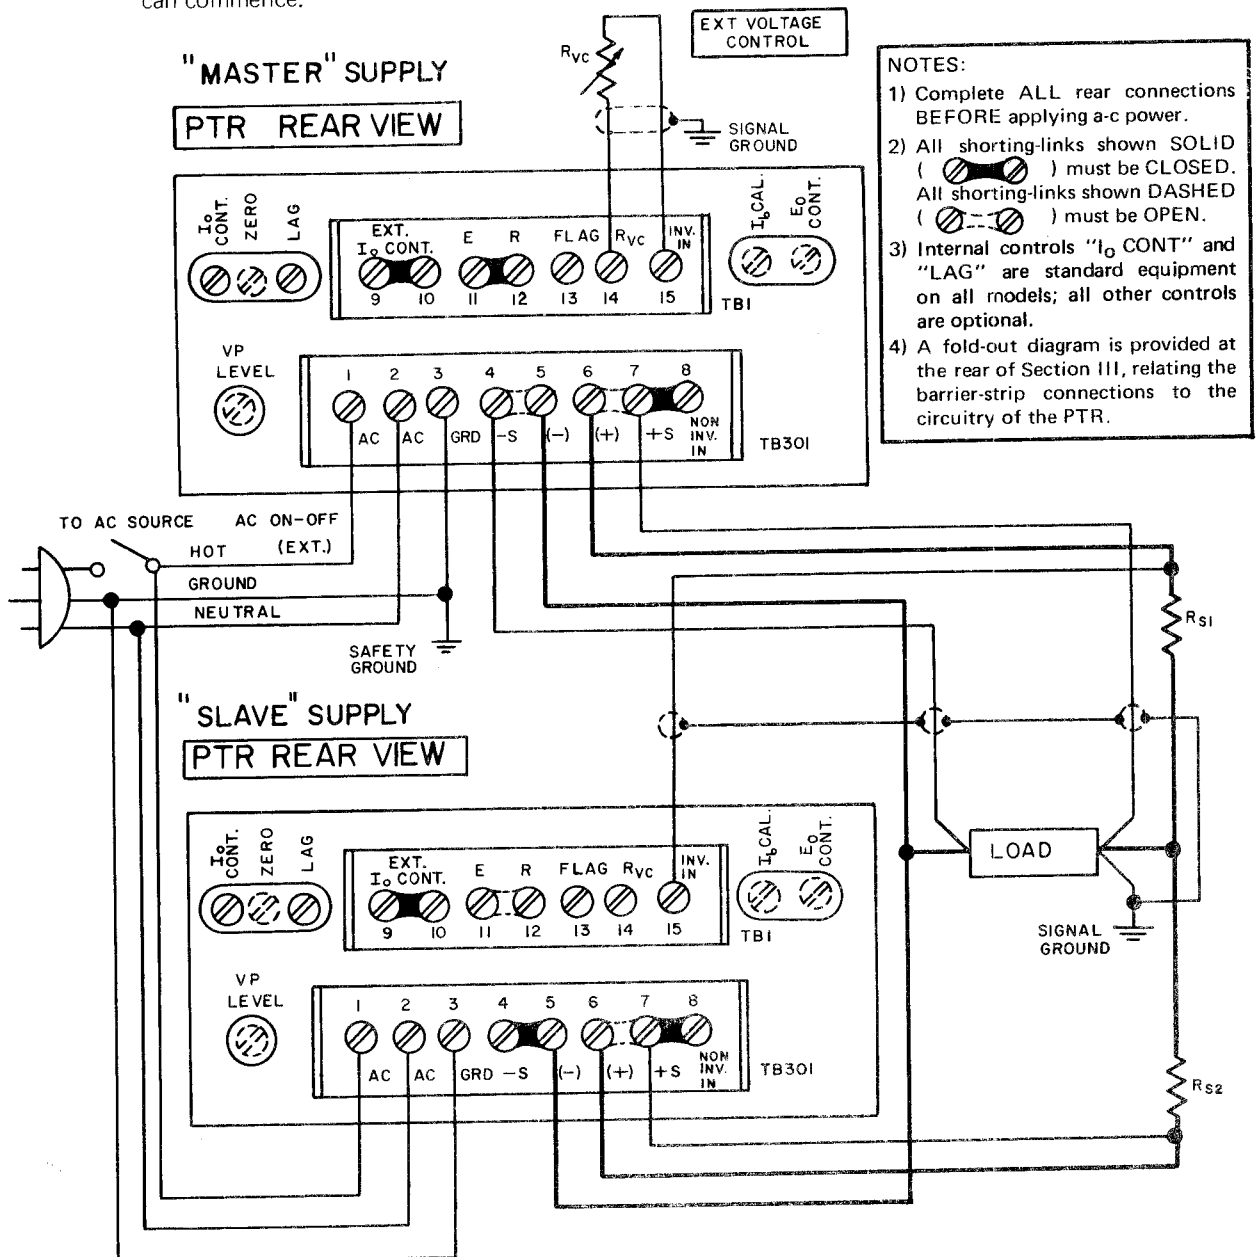

FIG. 3-24 "MASTER/SLAVE PARALLEL CONNECTION."
3-93 Kepco Power Supplies may be operated in parallel for increased load current output. Two parallel connection methods are generally used, the "automatic" parallel connection as shown in FIG. 3-23 and the "Master/Slave" connection as illustrated in FIG. 3-24. The difference between these two alternate methods lies in the manner in which the output is controlled. While in the "automatic" parallel connection the output is set individually, in the "Master/Slave" connection control is exercised from the "master" supply alone. In effect, output current sharing must be individually adjusted with the "automatic" method, and is inherent with the "Master/Slave" connection.
3-96 MASTER/SLAVE PARALLEL OPERATION. Kepco Power Supplies may be paralleled if the output current from a single supply is not sufficient for the application at hand. With the parallel connection shown in FIG. 3-24, the total output current of the parallel supplies may be controlled from a single "master" supply. To operate the parallel supplies in the "Master/Slave" connection "sharing" resistors of equal value must be selected ( $R_{S1}$ ,  $R_{S2}$  in FIG. 3-24 such that the voltage drop across them is about 0.1 to 0.25 volts at the output current of interest. The *sum* of the voltage drops across the load wire with the sensing resistor in series should **never exceed 0.5 volts** at the maximum desired operating current. If "sharing" resistors of the proper value are not available, the resistances of the load wires may be used to establish the necessary voltage drops. In this case, the load wires should be trimmed such that **equal voltage drops** are established in the lead from the "master" and from the "slave" supply. Load wires should in general be of as heavy a wire gauge as practicable. Twisting of the load wires, as well as of the error sensing leads from the "master" supply (although *not* shown in FIG. 3-24) is recommended.
- Connect supplies as shown in FIG. 3-24, keeping load and error-sensing leads as short as possible. Use shielded wire for the connection from terminal (6) of the "master" to terminal (15) of the "slave" unit.